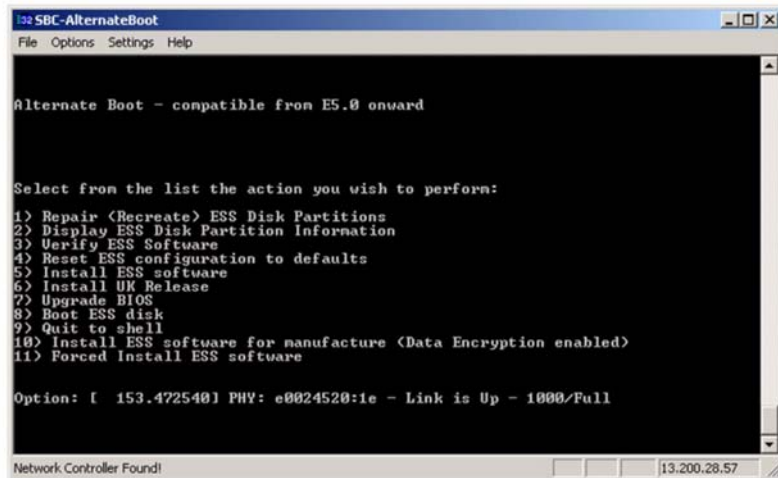

Figure 16 Action menu
13. From the next menu, Figure 16, select action 11, Forced Install ESS software.